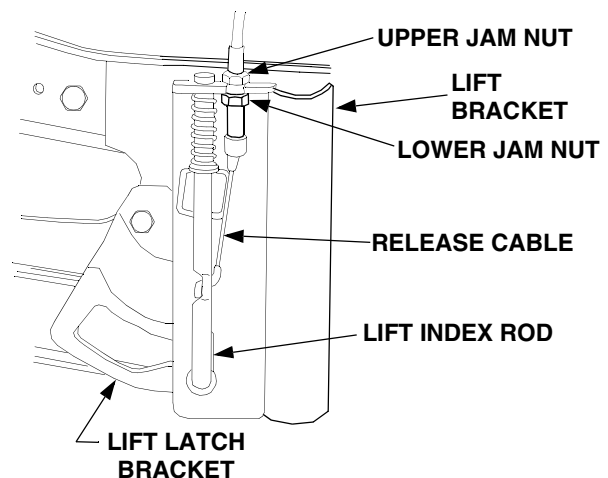

Figure 26
- If the index rod does not latch securely, loosen the upper jam nut and tighten the lower jam nut until the rod fully seats in the latch slot of the lift latch bracket. Refer to Figure 26.
- If the release cable has excess slack and it is difficult to disengage the rod from the latch slot, loosen the lower jam nut and tighten the upper jam nut until the excess slack is removed from the cable. Refer to Figure 26.
1. The augers are secured to the auger shaft with six shear pins and bow-tie cotter pins. Refer to Figure 26. If an auger is suddenly jammed by a foreign object or ice chunk, the pin is designed to shear — minimizing potential damage to the gear box or sprocket box.
2. If the augers will not turn, check the pins to see if they have sheared. Two replacement shear pins (5) and bow-tie cotter pins (12) have been provided with the snow thrower. For future use, order part number 738-04124A for replacement shear pins and 714-04040 for the bow-tie cotter pins.